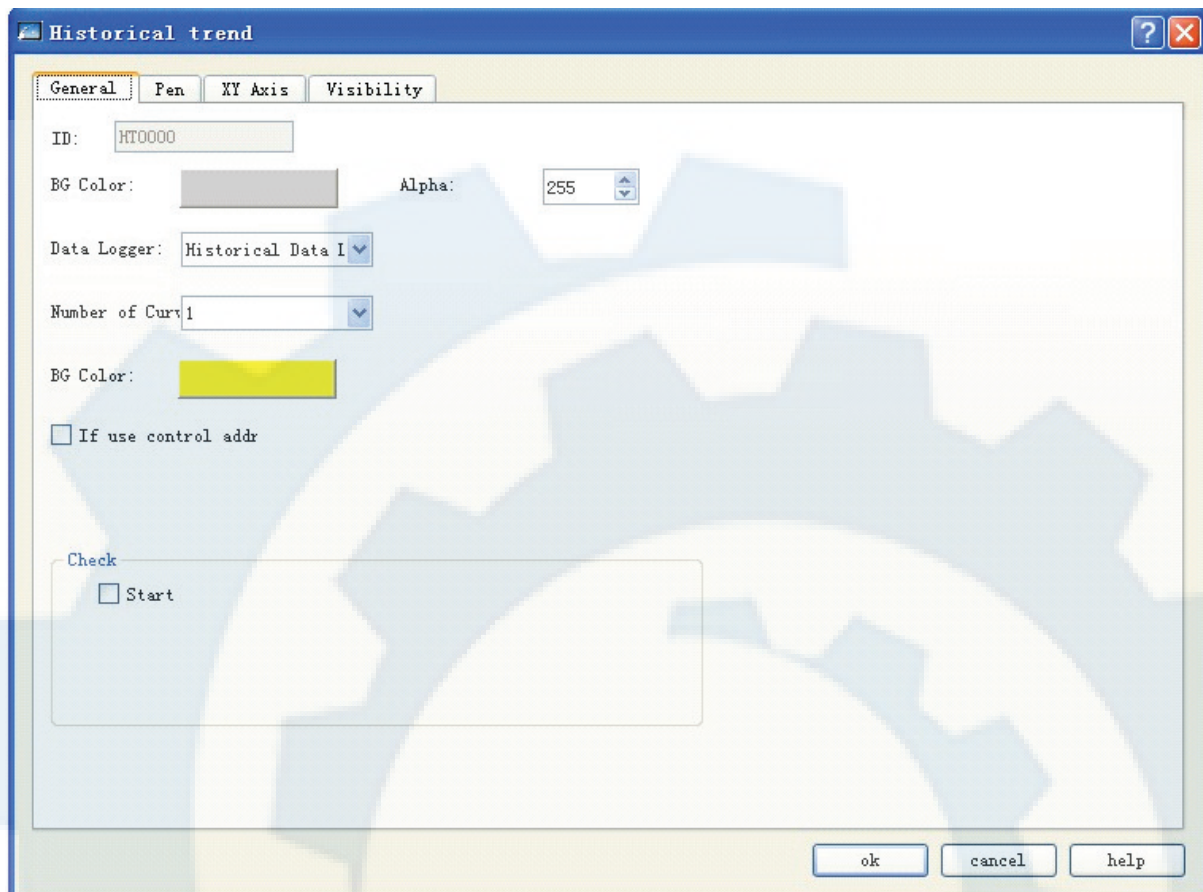

Figure 4-58: General tab of historical trend chart
1. Click Trend chart icon  in the tool bar, and then a dialog as shown in Figure 4-58 will appear: